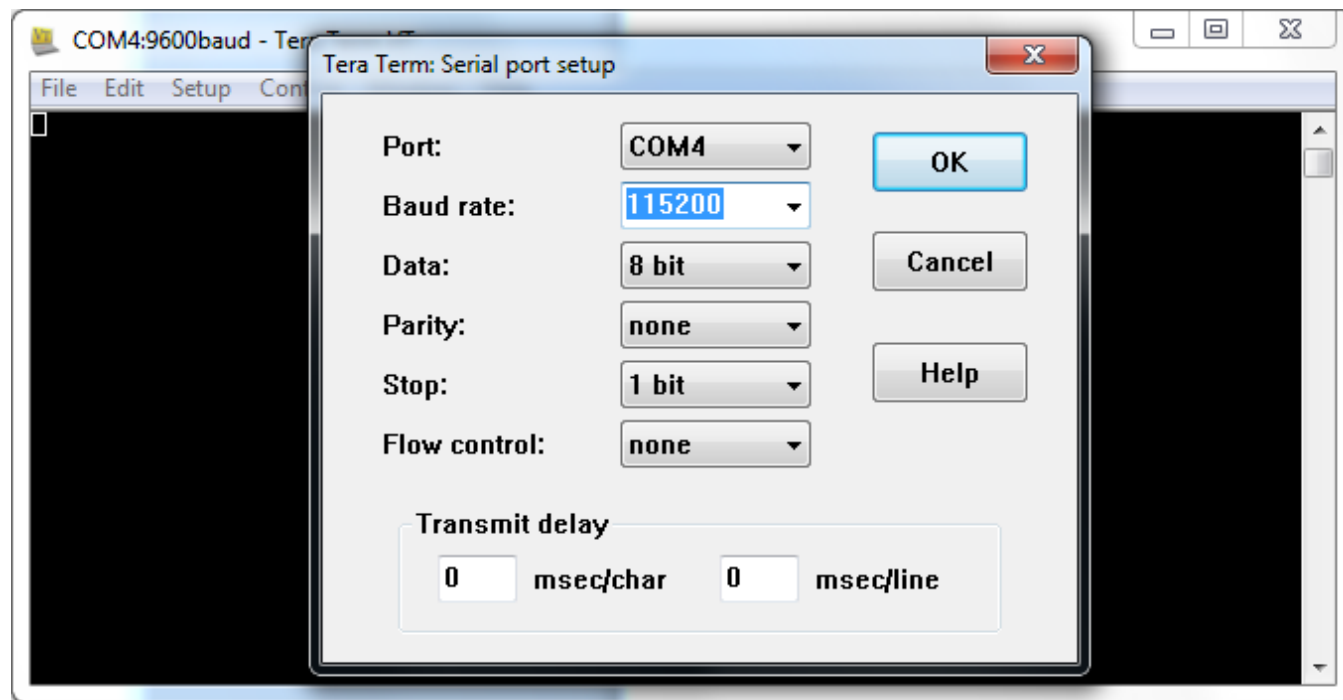

Figure 14. Tera Term Serial Port Setup
17. In the menu, select Setup>Serial Port, and change the baud rate to 115200 as shown in Figure 14.